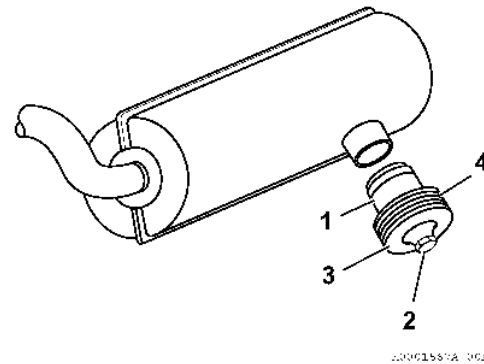

Figure 66
Clean the spark arrester (Figure 66, (1)) as follows.
1. Remove the lock nut (Figure 66, (2)), end cap (Figure 66, (3)) and diffuser discs (Figure 66, (4)) from the spark arrester.